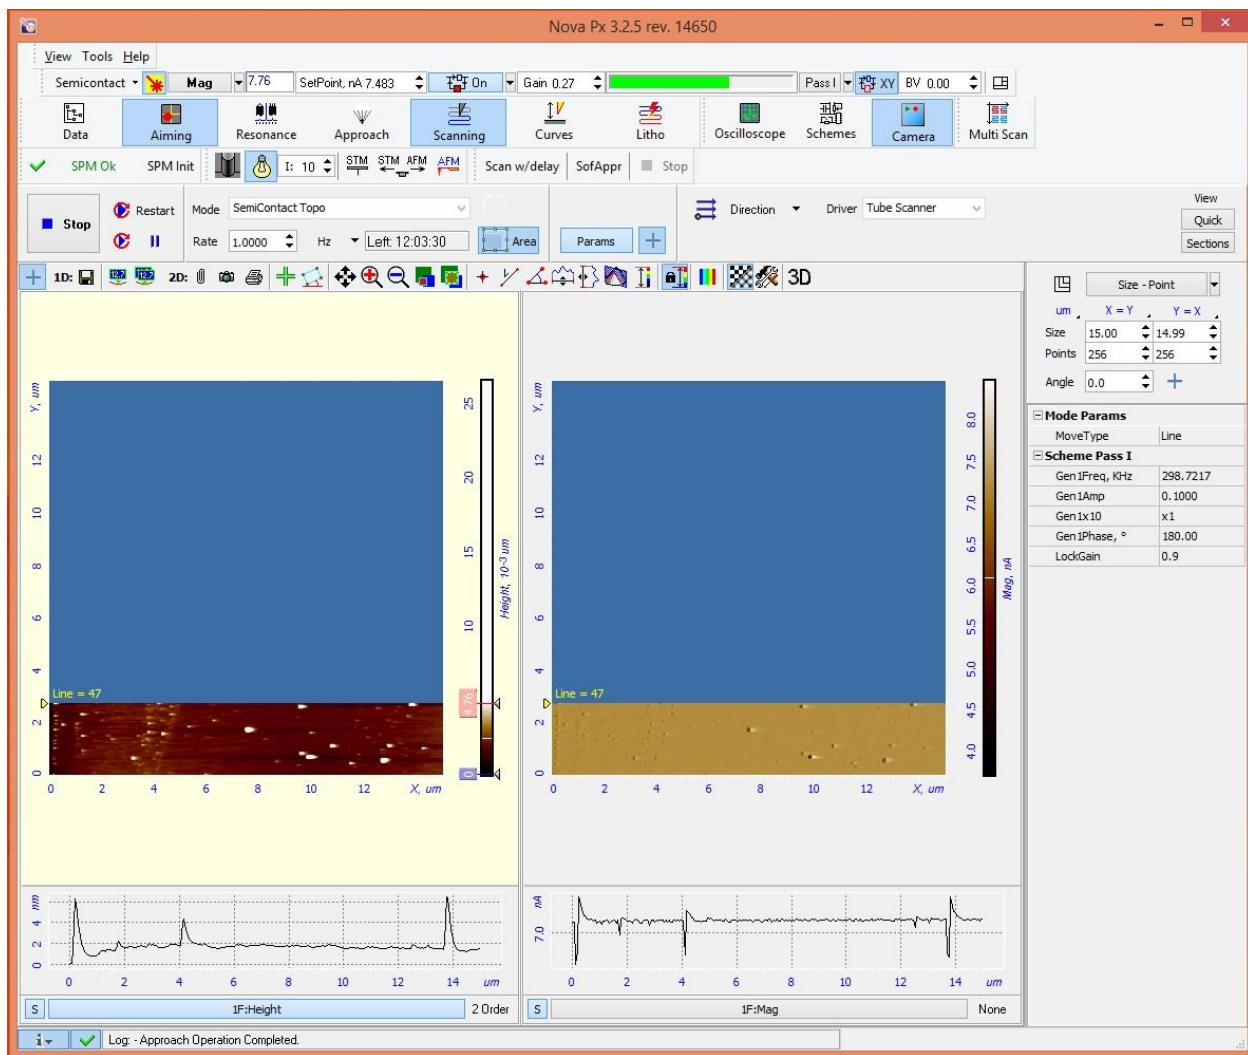

Figure 23: 2nd order tilt correction has been used to flatten cross section and remove gradient from scan image
- In Figure 23 a 2nd order correction has been applied and the gradient in the image is gone and the cross section is level.